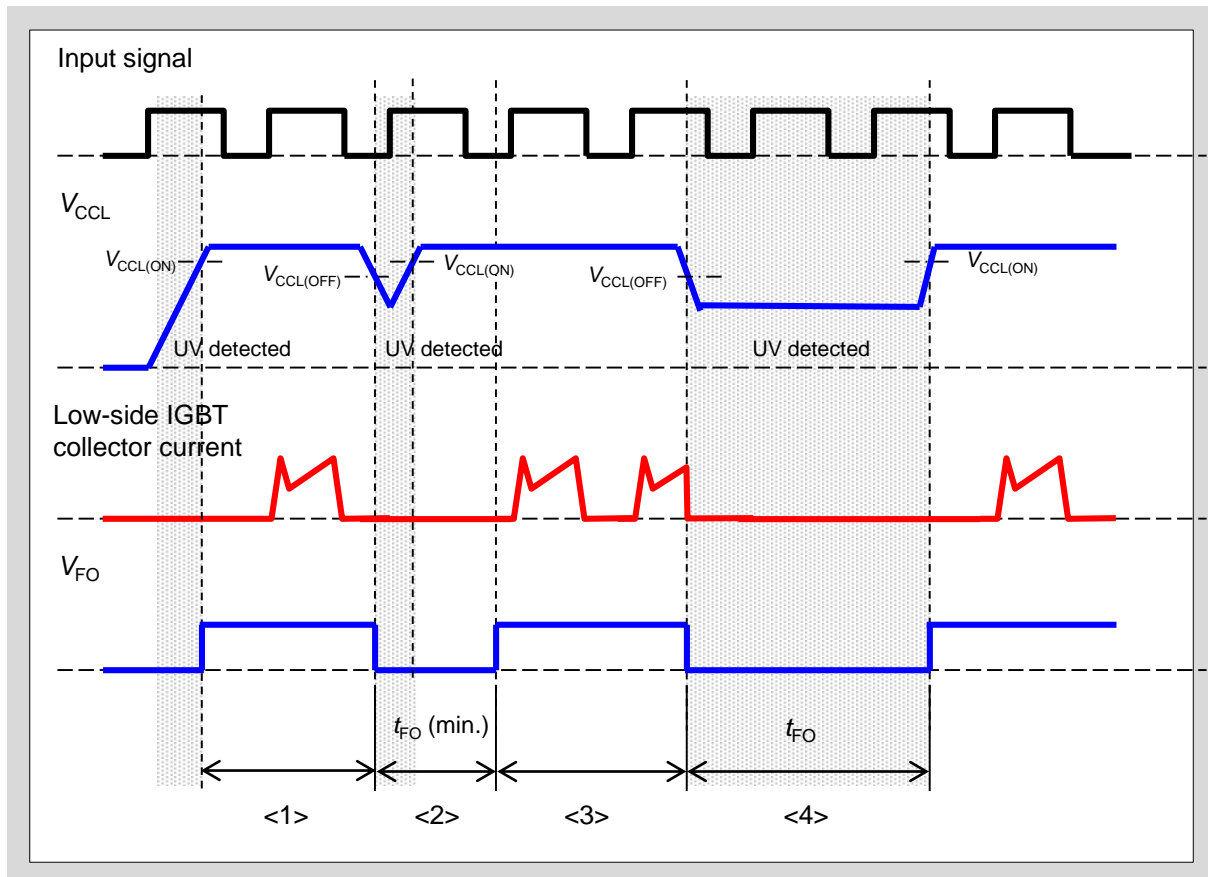
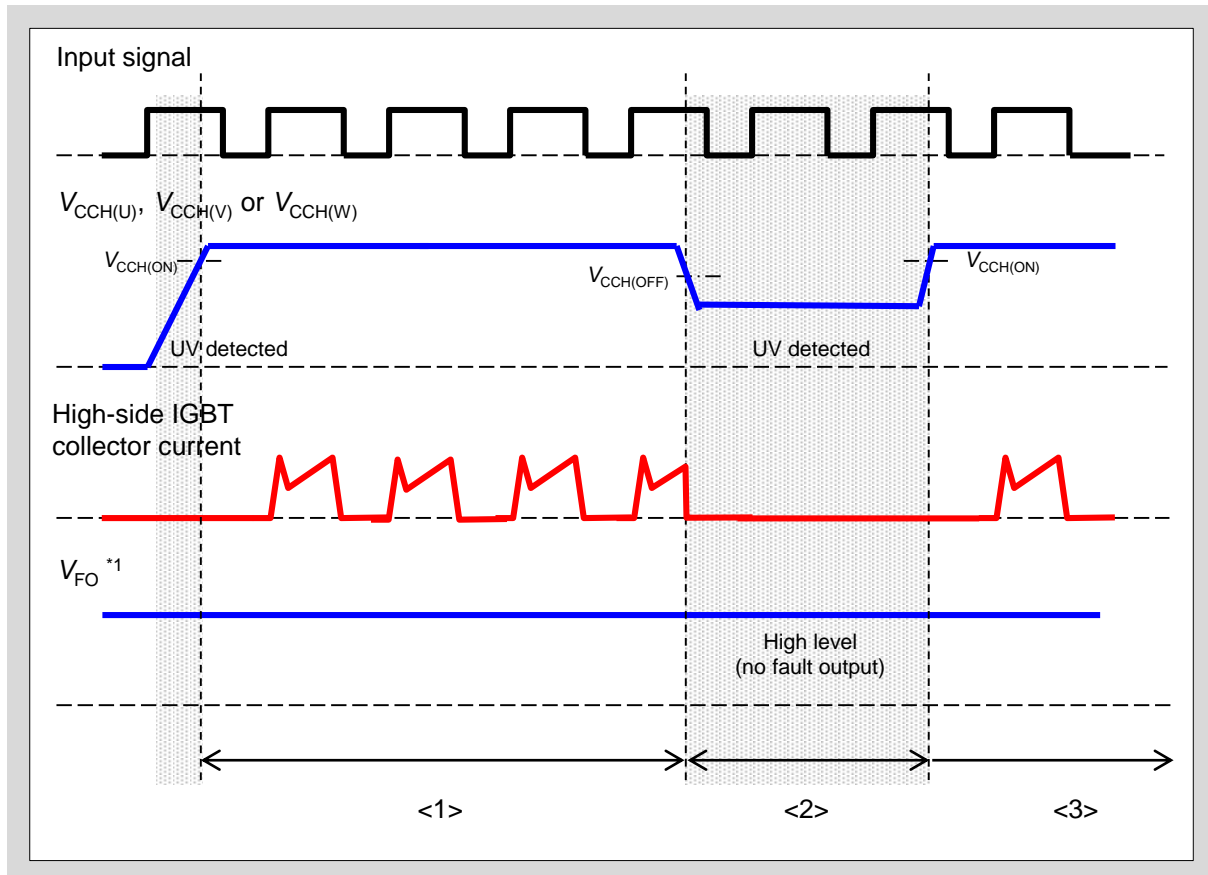

Fig. 3-2 UV protection operation sequence of V_{CCL}
Fig. 3-3 UV protection operation sequence of $V_{CCH(U,V,W)}$
- Fig.3-2 and Fig.3-3 shows the operation sequence of UV operation of V_{CCH} and V_{CCL} .